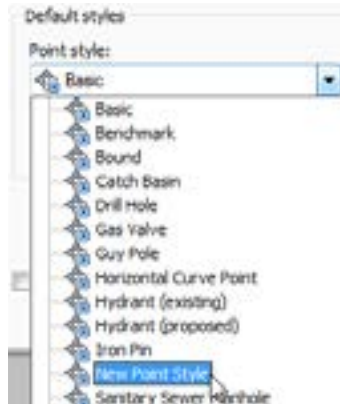

*Figure 2-62 Partial view of the **Text Component Editor - Contents** dialog box showing the northing label text*
13. Choose the button next to the **Properties** drop-down list; the selected property is added to the **Text Editor** window available on the right pane of the **Text Component Editor - Contents** dialog box, refer to Figure 2-62.